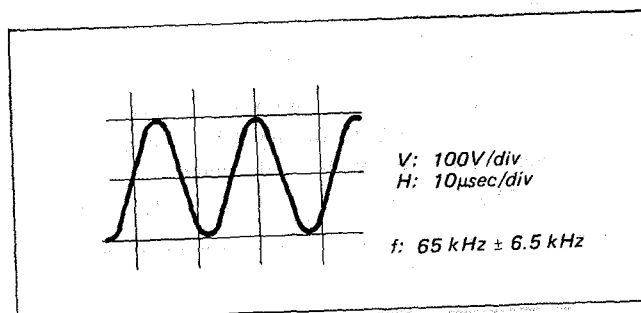

Fig. 5-34. Bias oscillator check
- (1) Set the input signal level to zero and set up the RECORD mode.
- (2) Connect a frequency counter to Pin ② of CN504. The reading should be $65 \text{ kHz} \pm 6.5 \text{ kHz}$. (See Fig. 5-34.)